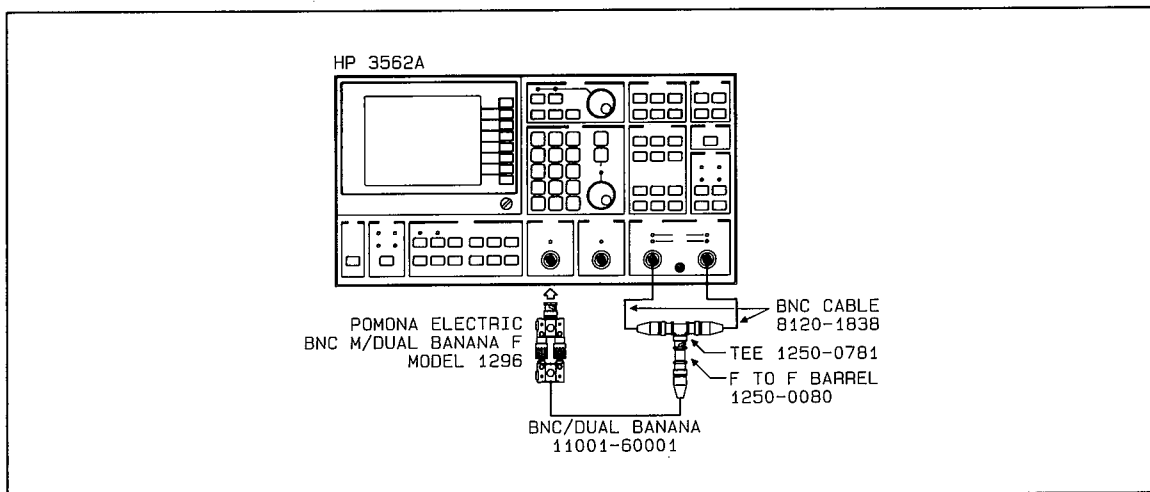

Figure 2-14 Amplitude and Phase Match Test Setup
A. Connect the HP 3562A as shown in figure 2-14. The cables to channel 1 and channel 2 must be the same length.